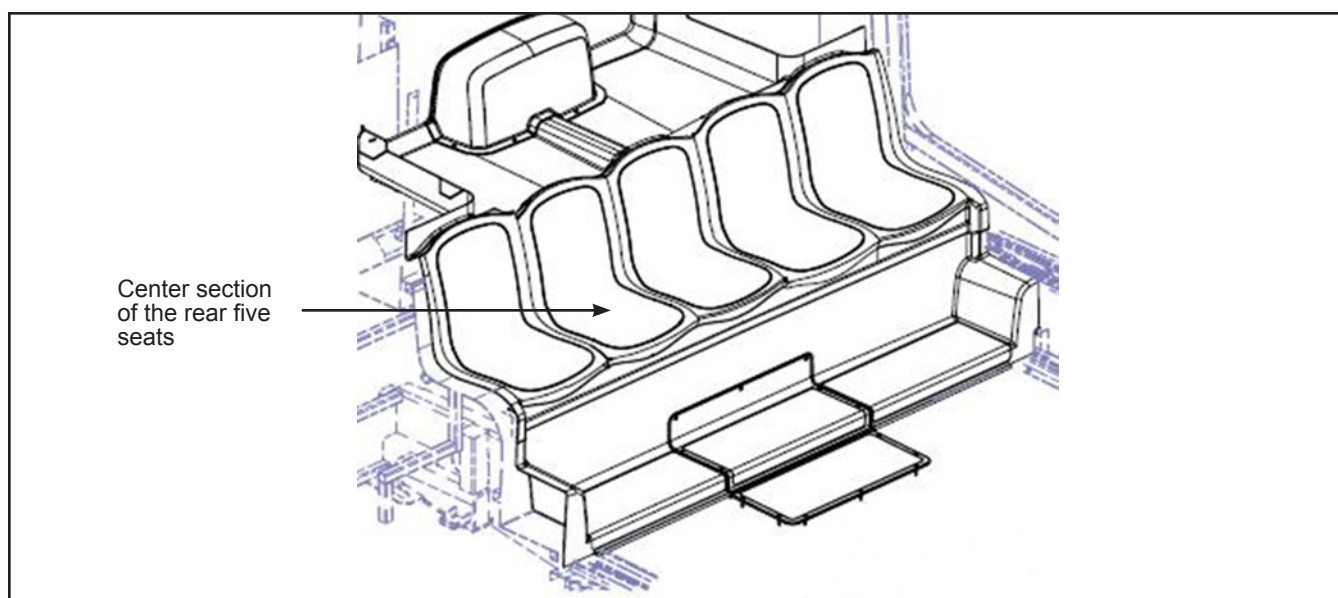

Figure 1 - Rear Five Seats
- 1.3. Locate and remove the two wires connected to the alternator. See Figure 1.